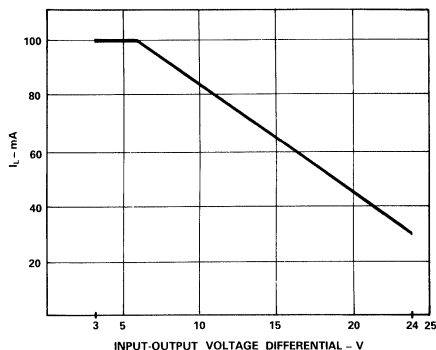
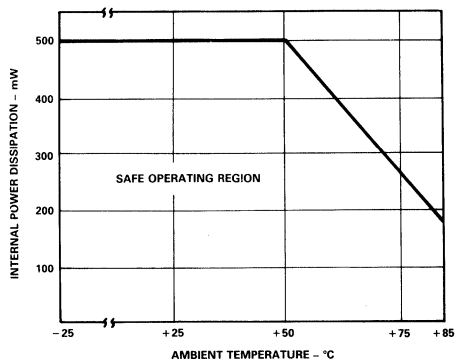

Figure 12. Excitation Source Load Current vs. Input-Output Voltage Differential,  $\leq 25^\circ\text{C}$
Figure 13. Excitation Source Internal Power Dissipation vs. Temperature
**Bridge Excitation:** The adjustable bridge excitation is specified over a wide regulator input voltage range (+9.5V to +28V). Maximum load current  $I_L$  as a function of regulator input-output differential voltage is shown in Figure 12. The maximum output current also depends on ambient temperature, and above +50°C a derating factor of 2mA/°C must be applied. The safe operating region for internal power dissipation vs. temperature is graphed in Figure 13.